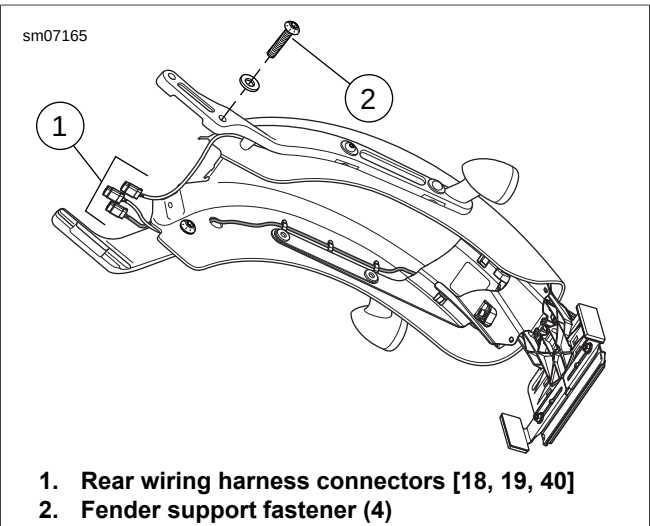

Figure 2-111. Rear Fender
3. See Figure 2-111. Disconnect all three rear wiring harness connectors [18, 19, 40] (1).
5. Remove fender support fasteners (2) and pull rear fender assembly away from motorcycle.
1. See Figure 2-111. Carefully place the fender into position.
2. Install fender support fasteners (2). Tighten fasteners to an initial torque of 30-35 ft-lbs (40.7-47.5 Nm). Loosen fasteners and final-tighten to 38-42 ft-lbs (51.5-56.9 Nm).
4. Connect all three rear wiring harness connectors [18, 19, 40] (1).